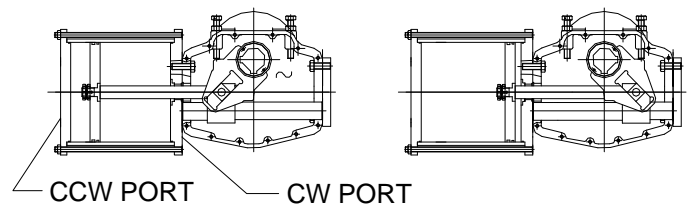

Figure 3
A) Verify that the clockwise (CW) and counter-clockwise (CCW) supply ports on the actuator are **not** open to the atmosphere by turning the handles on the 3-way valves so that they are parallel to the air flow (see Figure 3).
C) Applying air pressure to the CCW port drives the piston toward the front flange which turns the yoke counterclockwise when viewed from the accessory side of the actuator. When pressure is applied to the CW Port the piston is driven towards the end cap which turns the yoke clockwise. This is shown in Figure 3.
turning the handles on the 3-way valves so that they are perpendicular to the air flow (see Figure 3).